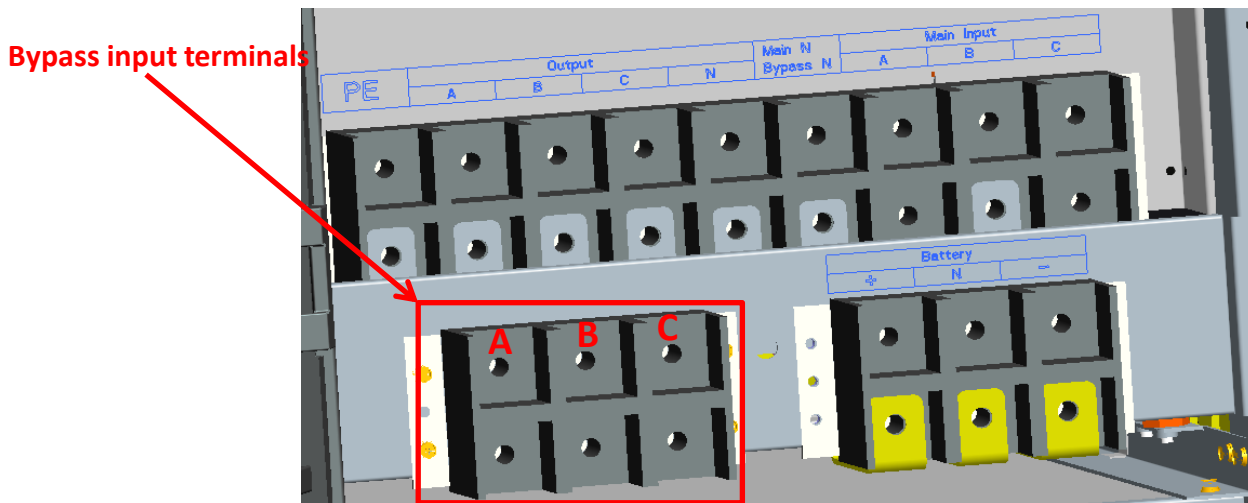

Figure 2 Bypass input terminals
2. Install the bypass input terminals, as is shown in figure 2.